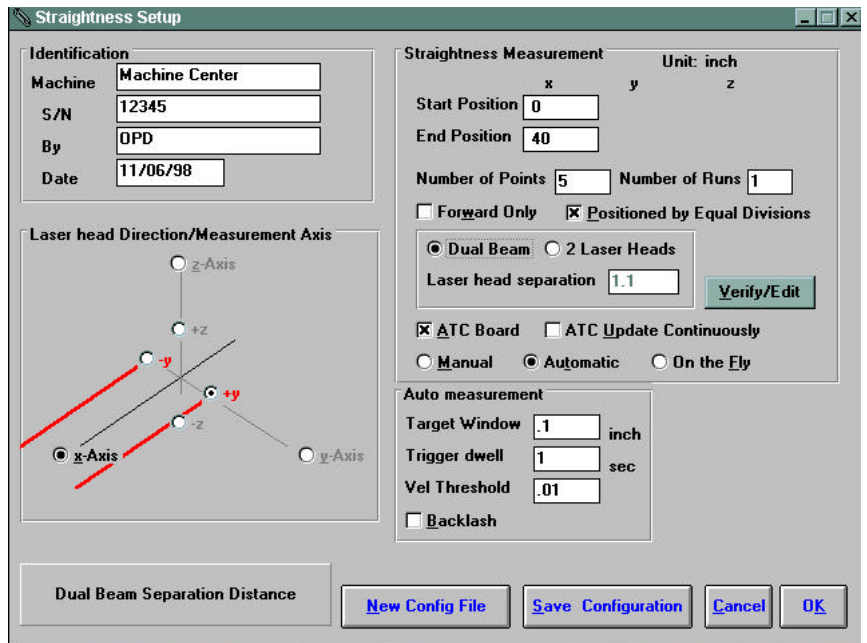

Fig. 5-2 Straightness Measurement Setup Screen
Straightness Measurement Setup Screen (Fig. 5-2)
- 1) Choose which axis the lasers are pointed in (X, Y or Z axis). In Fig. 5-2 it is the X-axis.